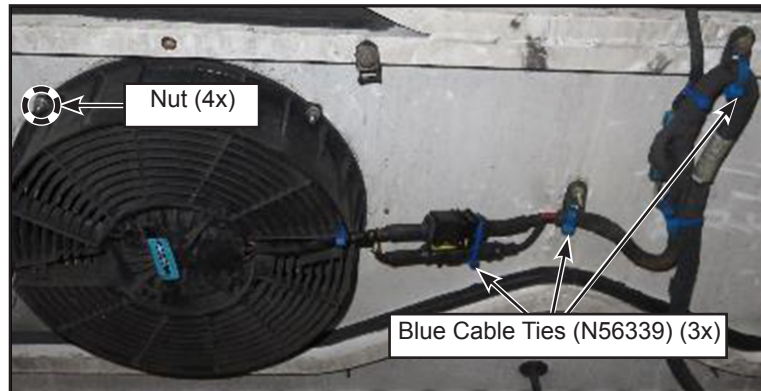

Figure 21 - Blue Cable Ties Securing the Fan Wiring at Harness Side
- 1.38. Remove and retain the four nuts around the fan and rotate it clockwise (*for the aluminium door configuration*) (see figure 21) to have the engine door fan routed horizontally wiring at the middle right and reinstall the four fan nuts.
- 1.39. Secure the wiring at the connectors and on the aluminium door at harness side with blue cable ties PN N56339 (3x) (see figure 21).